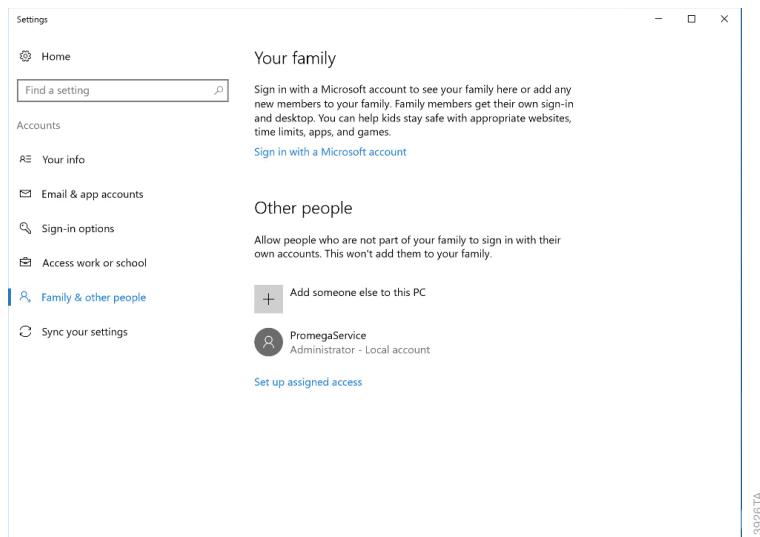

Figure 51. Managing accounts. Windows® user accounts can be created, removed and managed from the 'Family & other people' tab of the 'Accounts' screen.
4. From the list on the left side of the screen, select the **Family & other people** button to display account settings for this PC (Figure 51).
- To add a new user account, select the **+** sign next to the *Add someone else to this PC* heading (Figure 51). This will open the 'Create an account for this PC' screen (Figure 52).